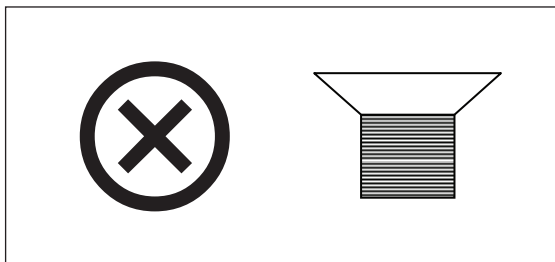

Fig. 8-4: Clamp fastener
1. Place the clamp on the platform, aligning its mounting holes with holes on the platform. Secure the clamp in place using the flat Phillips head screws provided (# S2116-3051, 10 – 24 x 5/16 in). To help you identify the proper screws, (see Fig. 8-4 on p. 42), as 3 different types of screws are shipped with the clamps.